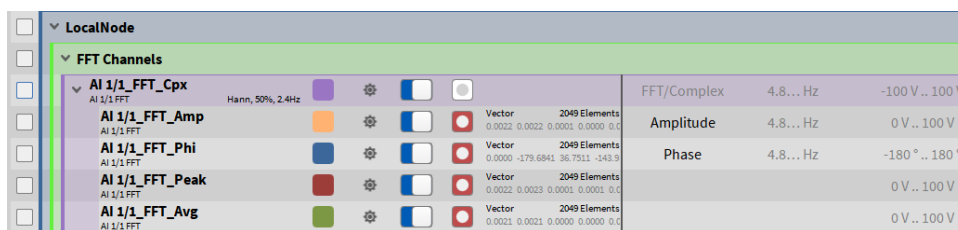

Fig. 7.88: FFT channels within the channel list
- After pressing the Add button, the FFT for the selected input channel(s) will be calculated and the Output channels will be visible within the *FFT Channels* topology in the Channel List (see Fig. 7.88).